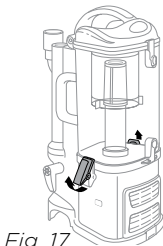

Fig. 17
- 1 Undo the latches on the sides of the dust cup by lifting them up and outwards to remove the dust cup from the canister. (Fig. 17)